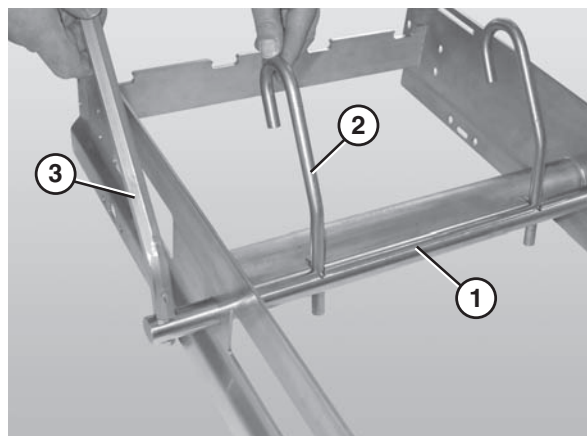

Figure 25
1. Slide the belt lift pivot bar (**Figure 25, item 1**) through the designated holes in the frame.
2. Attach the lifter bars (**Figure 25, item 2**) to the belt lift pivot bar (**Figure 25, item 1**). Make sure the hooked ends of the lifter bars are facing down when resting against the frame.
3. Attach the lifter handle (**Figure 25, item 3**) to the belt lift pivot rod.